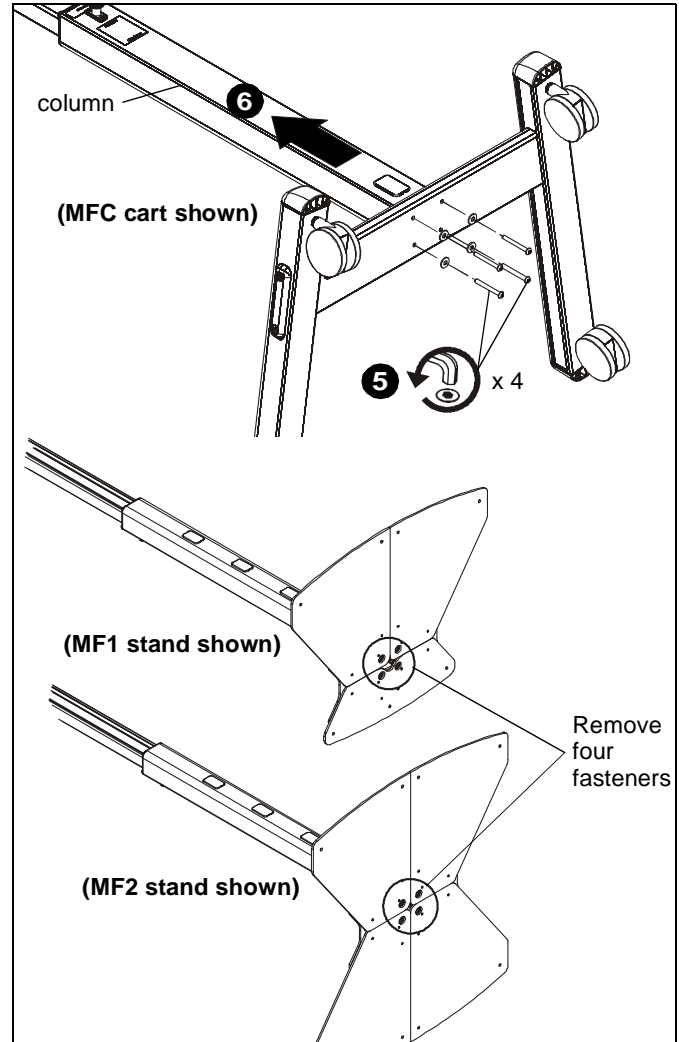

Figure 2
5. Remove and save four screws and washers from bottom of cart/stand. (See Figure 2)
6. Remove mounting column from base of cart/stand. (See Figure 2)